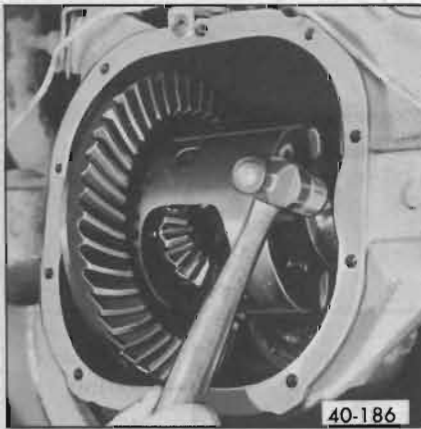

Figure 40-175—Installing Differential Adjusting Shims
2. Place differential case and bearing assembly in position in carrier. Use service type adjusting shims totaling same thickness as production type adjusting shims if either new or reused bearings are to be used. Slip left shims in position at left bearing with steel shim next to bearing, then place .140" shim for right side in position and drive steel shim carefully into position between bearing and case shim using a soft hammer. See Figure 40-175.